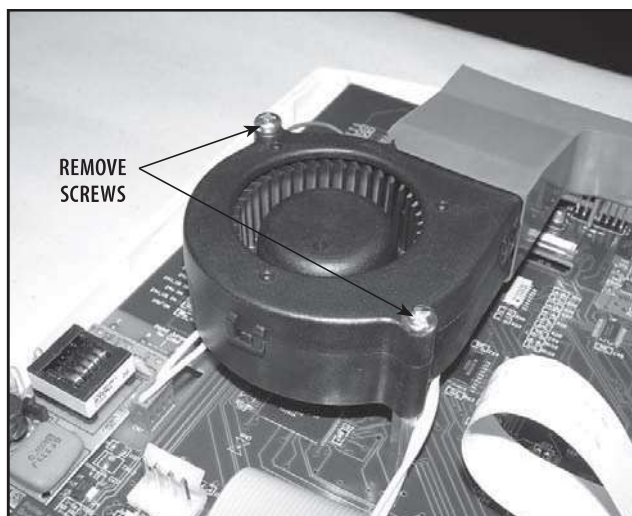

FIGURE 6.22
2. Using a #1 Phillips Screwdriver, remove the Two Fan Retaining Screws securing the Fan to the System Top. **See Figure 6.22.**